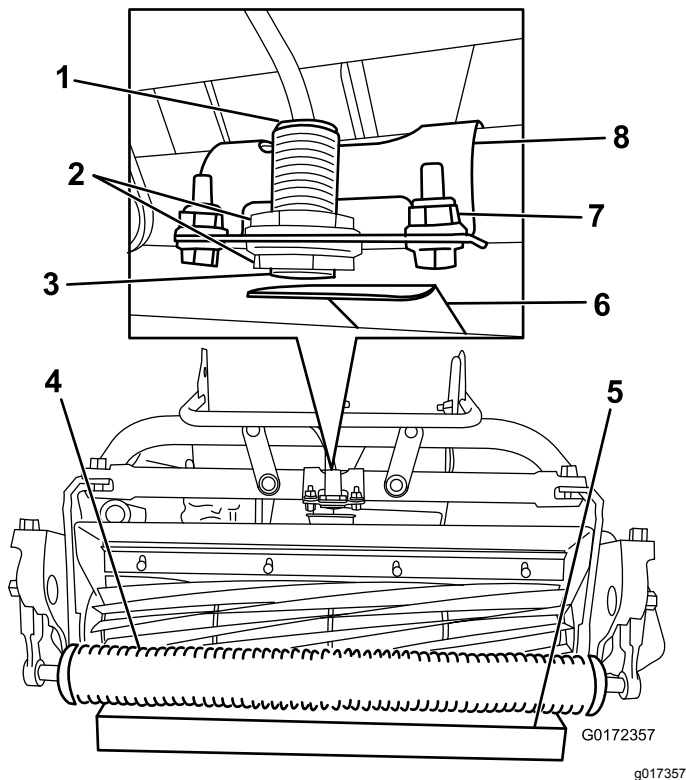

Figure 17
2. Loosen the jam nuts on the sensor and adjust the sensor so that 1 thread is visible past the lower jam nut (Figure 17).
4. Place a 3.8 cm (1-1/2 inches) block under the front cutting unit roller (Figure 17).
5. Loosen the fasteners that secure the sensor bracket to the frame (Figure 17).
8. Rotate the sensor bracket toward the target plate until the light on top of the sensor illuminates (Figure 17). If the light was already illuminated, rotate it away from the target plate until it goes out and then reverse direction until it illuminates again.